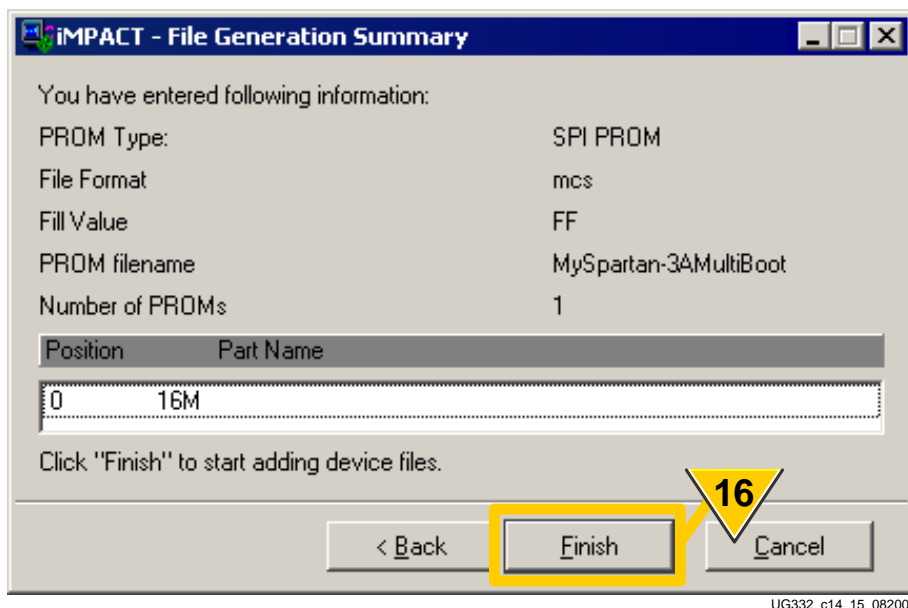

Figure 14-16: Confirm PROM Settings
16. The iMPACT software summarizes the current settings, as shown in Figure 14-16. Click **Finish** to continue.